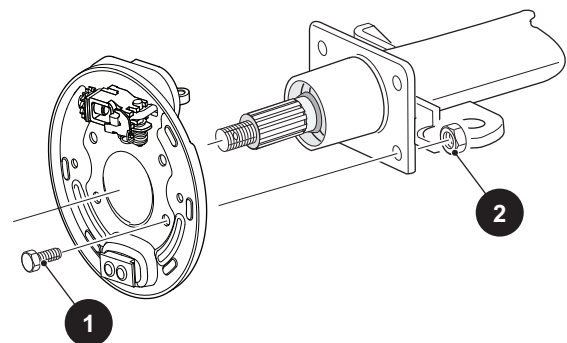

Figure 23 Backing Plate Removal and Installation
Remove four bolts (1) and lock nuts (2) securing the wheel brake backing plate to the flange on the axle tube (Figure 23).